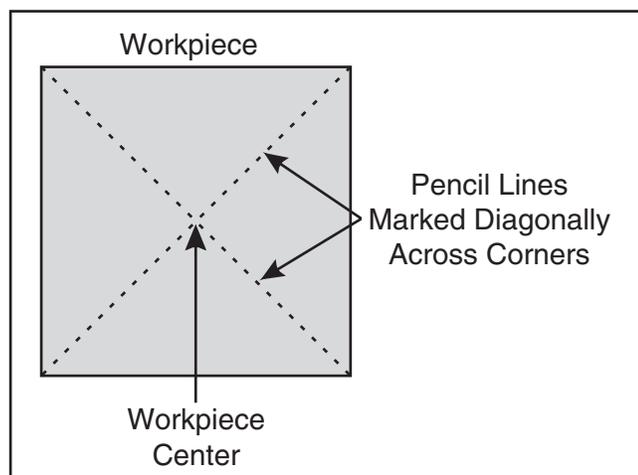

Figure 35. Workpiece marked diagonally from corner to corner to determine the center.
1. Mark both ends of your workpiece by drawing diagonal lines from corner to corner. The intersection point of these lines will show you the center of your workpiece. See **Figure 35** for details.